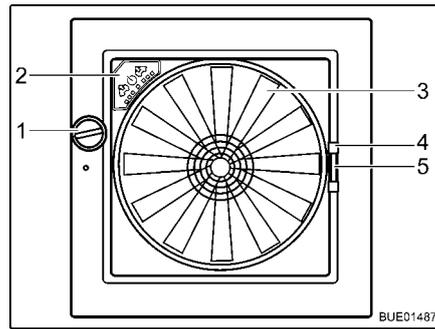

Fig. 86 Omni-Vent skylight
- Opening:** ■ Turn the knob (Fig. 86,1) until the desired opening angle is reached.
- Closing:** ■ Turn the knob (Fig. 86,1) until the skylight is fully closed.
- Closing:** ■ Using the handle (Fig. 86,4) pull the insect screen across to the other side of the frame.
- Closing:** ■ Press together the handle (Fig. 86,5) of the shade.
Fan If the skylight is open, the interior can be vented and aerated with the 6-speed fan (Fig. 86,3). The fan is operated via the operating panel (Fig. 86,2).